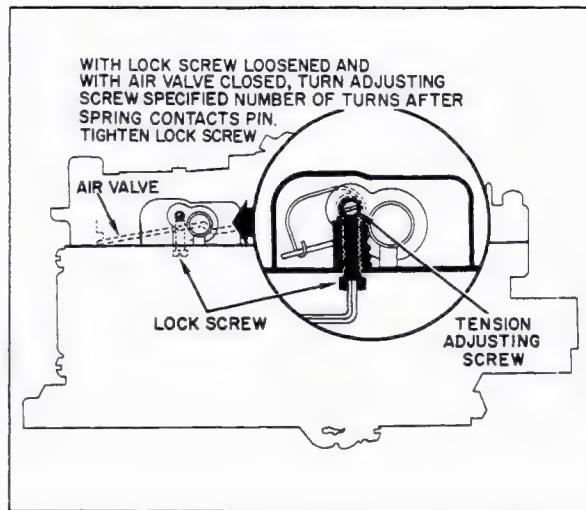

Fig. 6-86 Air Valve Spring Wind-Up Adjustment
89. Air Valve Spring Wind-Up Adjustment (Fig. 6-86)
- Loosen allen socket head lockscrew, Fig. 6-86, and turn adjusting screw counterclockwise to remove all spring tension.